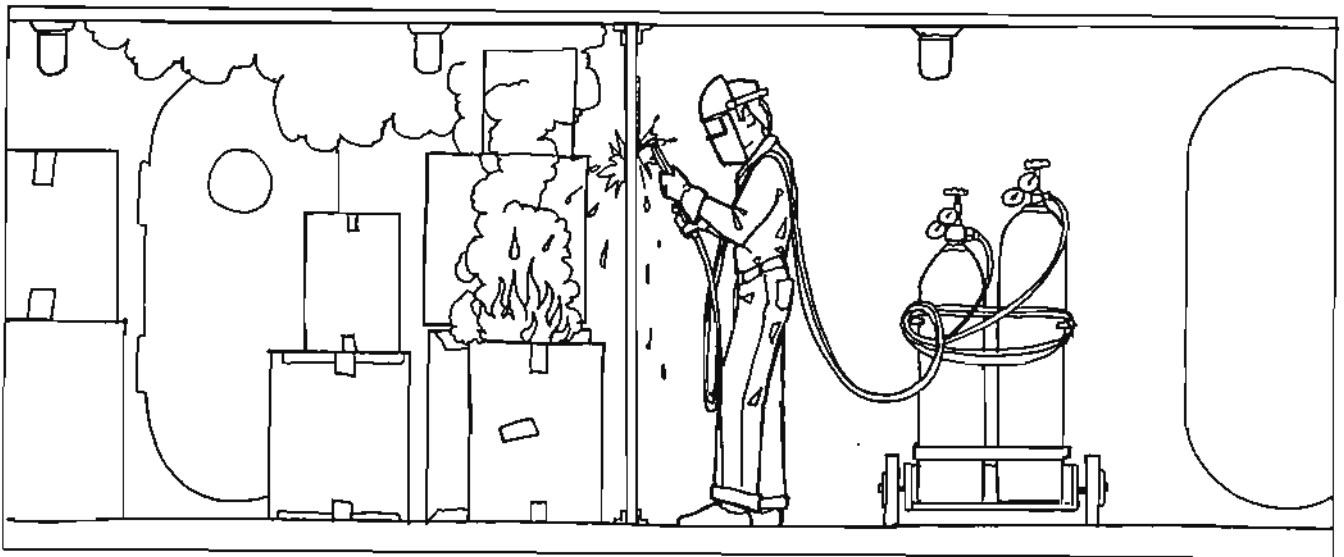

Figure 4-11. You're got to keep watch on all sides of welding, burning or cutting operations.
- 11) Failure to check for flammable insulation on other side of bulkhead (Figure 4-11).